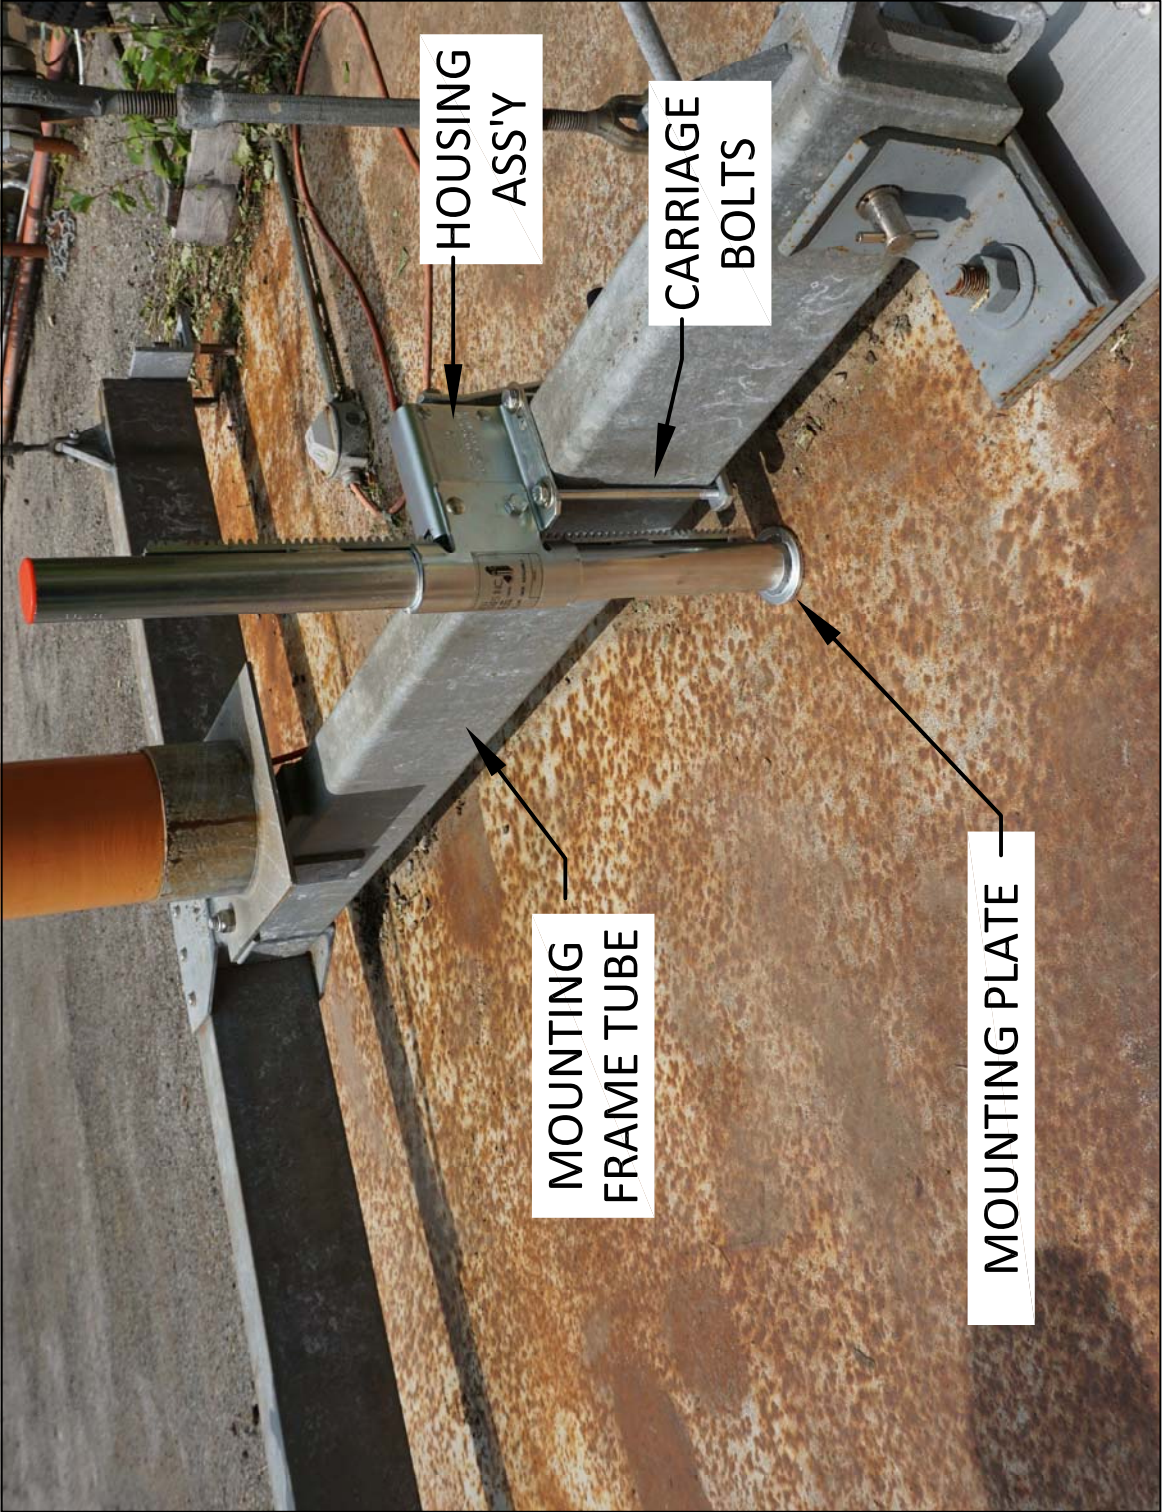

FIGURE 3-4
- C. Attach trailer jack to mounting frame assembly. Position it close enough to the tilt device to enable one man to operate the tilt device winch and trailer jack simultaneously. The trailer jack must be positioned over the concrete pier. Make sure that trailer jack handle is located on the same side as the rigidly mounted winch handle of the tilt device. Use the four long carriage bolts and the mounting plate, supplied with the trailer jack, to secure the trailer jack to the mounting frame assembly tube. (See Figure 3-4) Tighten all nuts on trailer jack carriage bolts.